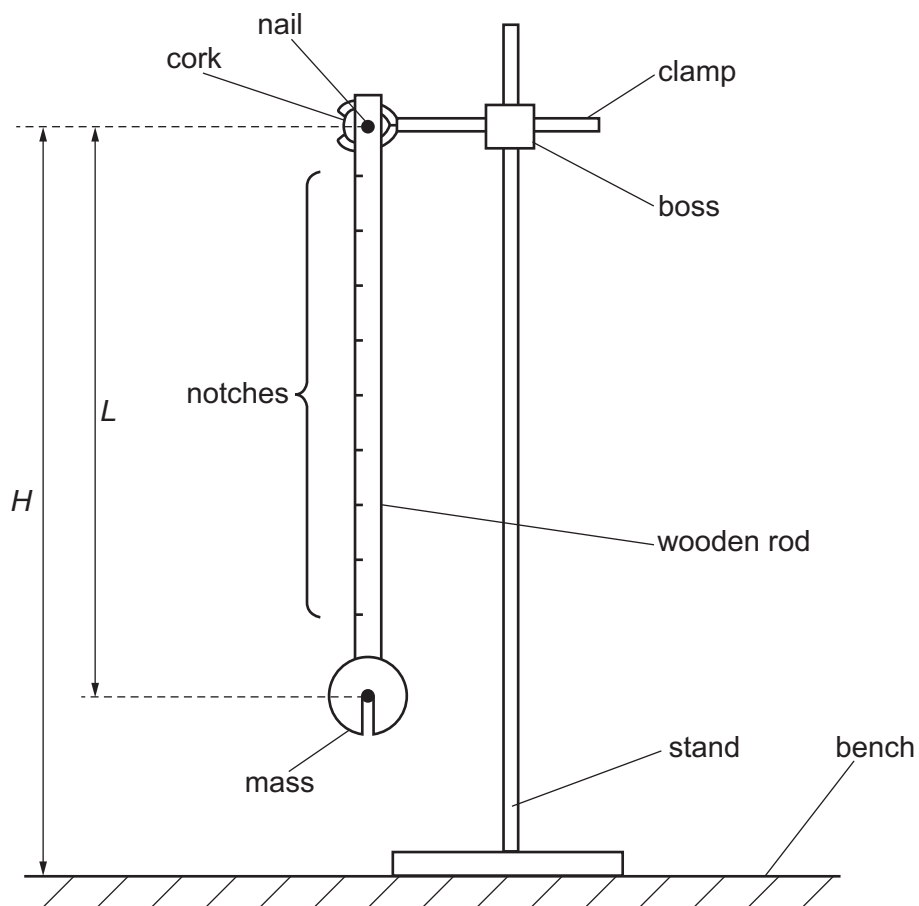

Fig. 1.1
- (a) (i) • Assemble the apparatus as shown in Fig. 1.1 with the nail held securely in the cork. Check that the rod can swing freely.